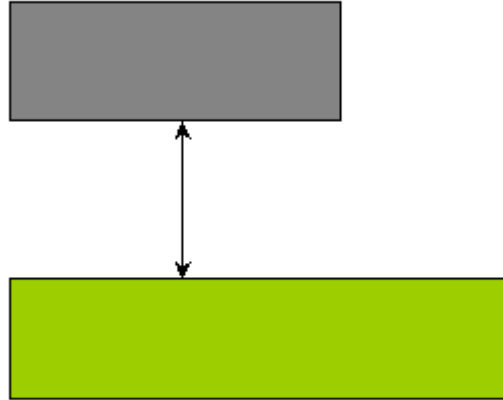

Figure 55: Spacing rule of objects.
- The Spacing rule specifies the minimum distance that should separate all pairs of objects, either on the same layer or on two different layers (Figure 55).